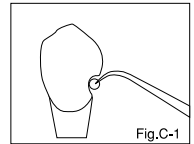

Fig.C-1
- c) Rinse thoroughly with water. Dry by blotting with a cotton pellet or gently blowing with an air syringe (Fig. C-1). DO NOT DESICCATE. Best results are obtained when prepared surfaces appear moist (glistening).